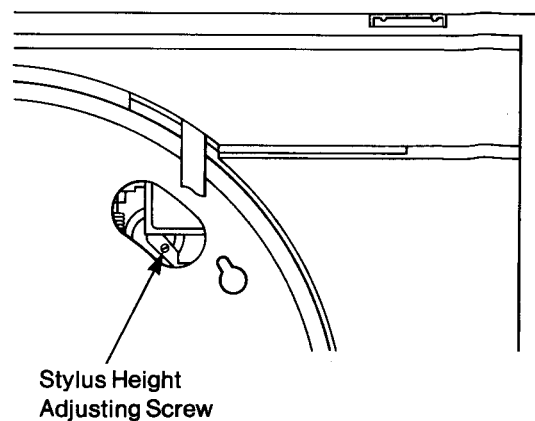

Fig. 4
3. Push the \triangleleft button on the control panel and move the tonearm to the place where the stylus height adjustment screw can be observed. (Fig. 4)